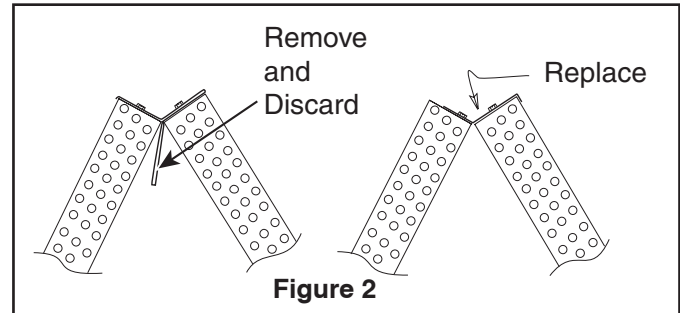

Figure 2
- For maximum efficiency, remove the factory installed two-piece baffle assembly from the apex of the coil by removing the 5/16" hex head screws. See Figure 2.